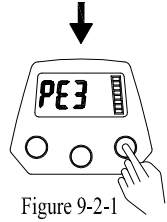

Figure 9-2-1
2. Press RESET to display the set meters (Figure 9-2-1).